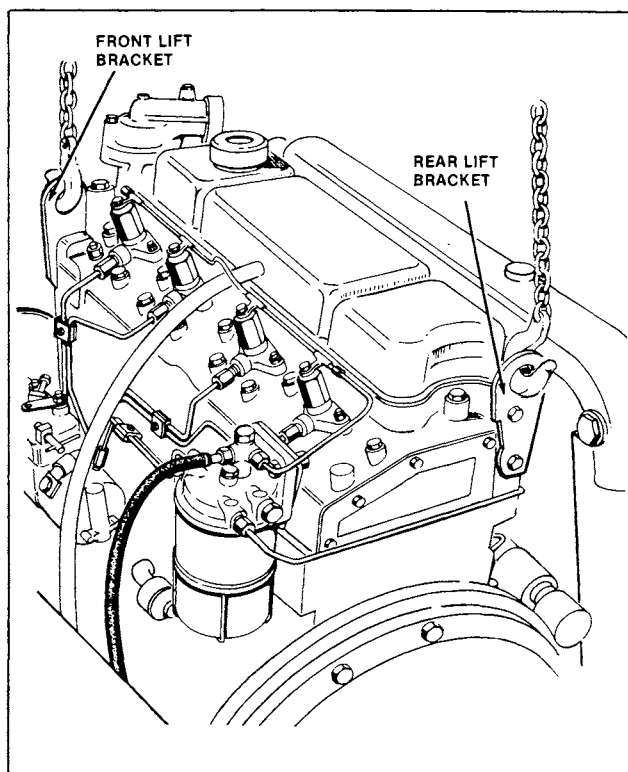

FIGURE 2-11: Engine Lift Points
31. Connect a two ton (2 tonne) hoist to front and rear engine lift points (Figure 2-11).